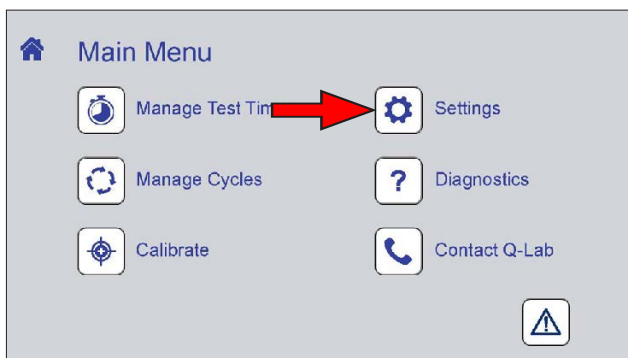
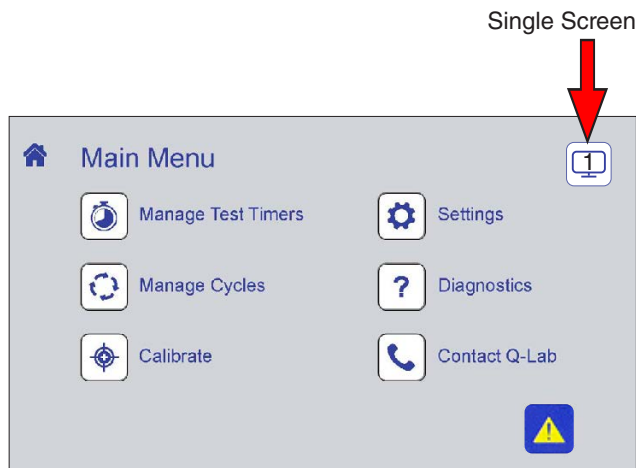
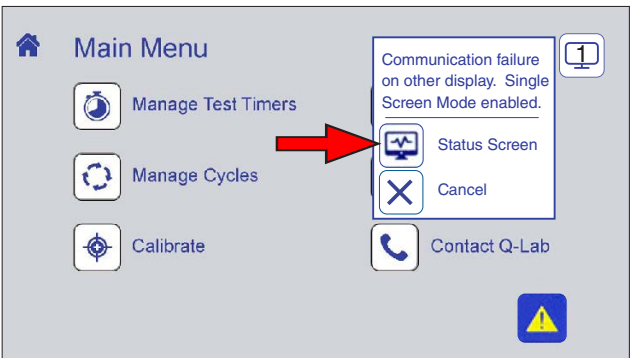

Figure 10.7a: Touch the Settings icon on the Main Menu screen to display settings controls.
Figure 10.7x: Main Menu in Single Screen Mode showing the single screen icon. Touch the single screen icon.
Figure 10.7y: Touch the Status Screen icon to display the Status Screen.
- On the Main Menu screen touch the Settings icon (Figure 10.7a) to display the Settings screen.
- o A button appears in the upper right corner of the screen to toggle the remaining screen between Main Menu and Status displays (see Figure 10.7x through Figure 10.7aa).
- If one of the display screens fails the Xe-3 main controller will enter Single Screen Mode as shown in Figure 10.7x.
- Figure 10.7y through Figure 10.7aa illustrate how to toggle between Main Menu and the Status Screen displays.
Figure 10.7aa: Touch the Main Menu icon to display the Main Menu.